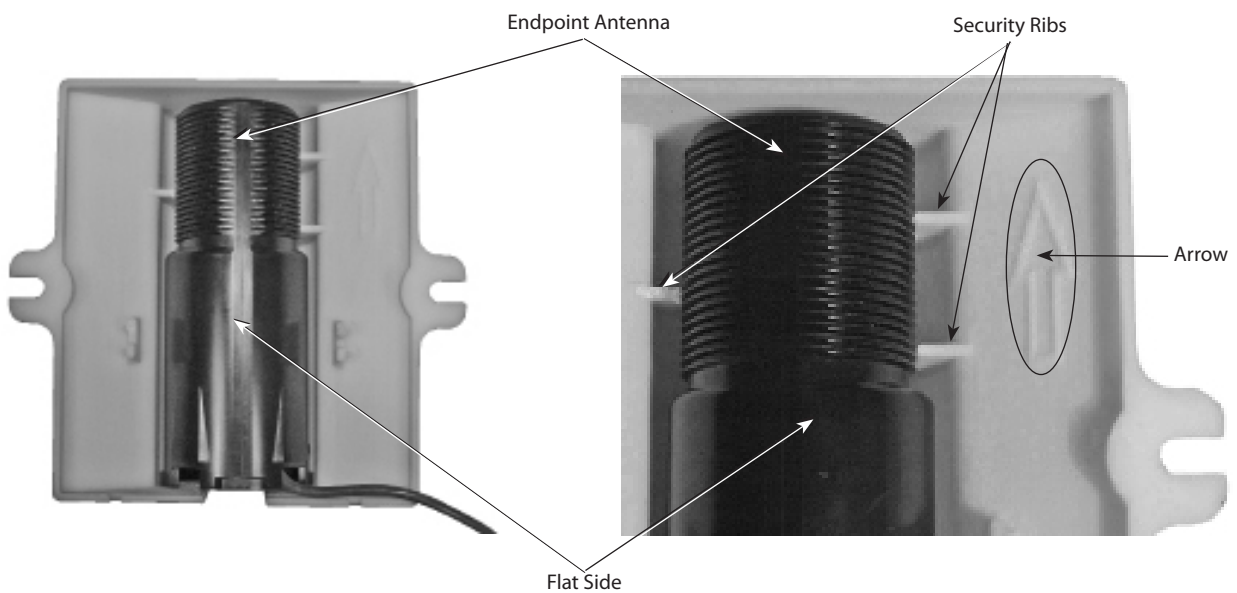

Figure 9: Endpoint Orientation
2. Place the endpoint into the ORION Remote Box Enclosure as shown in Figure 9. To ensure maximum endpoint performance, it is important to mount the ORION endpoint in the proper orientation, with the endpoint antenna up and ORION endpoint IR communication port and wire down.
3. Make certain the flat side of the endpoint is facing the back of the enclosure, or toward the installer, when inserting the ORION endpoint into the Remote Box Enclosure (Figure 9). When installing, mount the endpoint antenna toward the top of the enclosure, between the security ribs.